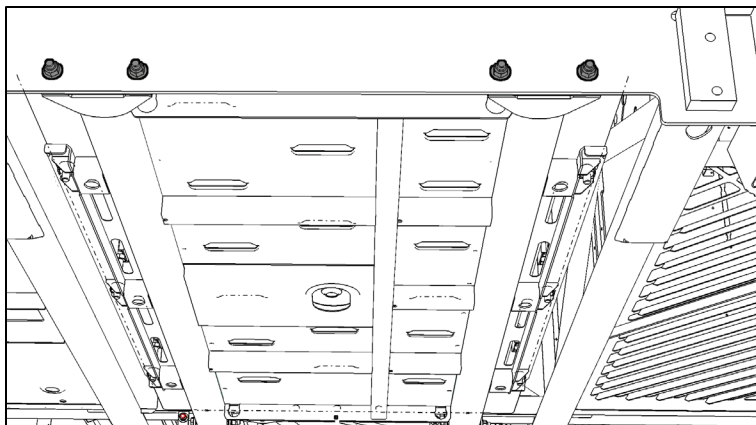

Figure 4
6. Unscrew the cradle anchor bolts. (4 locations) Fig 4 & 5